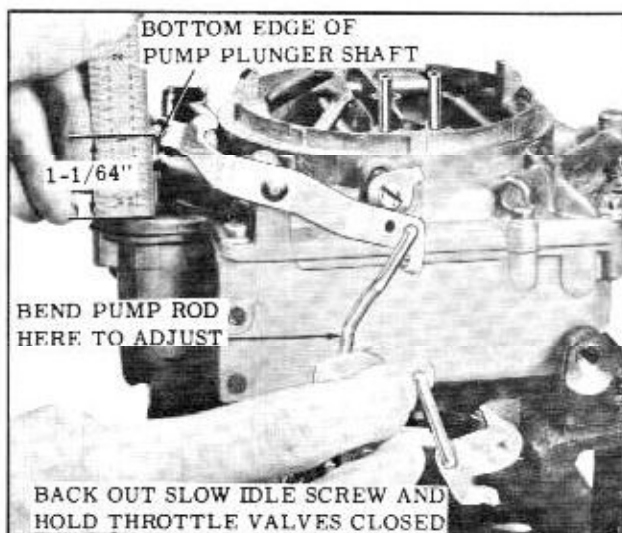

Fig. 8-117 Pump Rod Adjustment
1. While holding the throttle valves closed, idle speed screw backed out, measure the distance from the top of the air horn casting to the bottom edge of the pump plunger shaft. It should be $1-1/64''$. (Fig. 8-117)